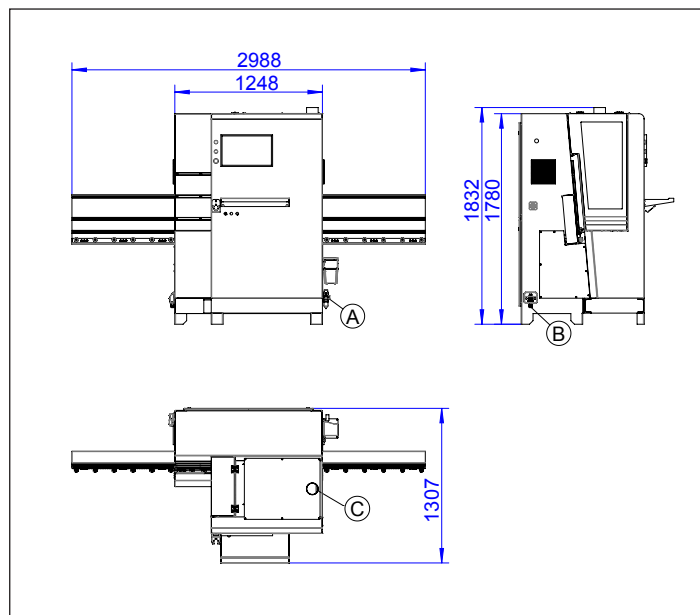

Fig. 3.4
Fig. 3.4 shows the overall dimensions of the machine and the points for compressed air(A), electrical(B), and vacuum connections (C).